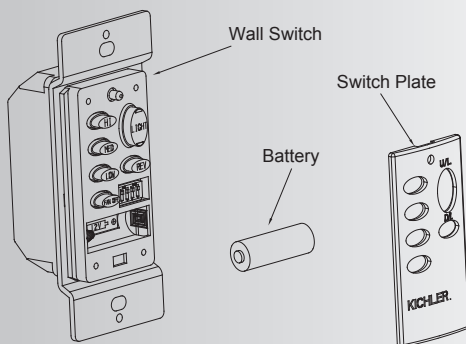

Fig. 18
Step 1. Use a small flat screw driver and gently pry it apart from the top or bottom of the switch plate. Install 1, 12volt battery included with wall mount Control system and make sure it is seated correctly. Replace the switch plate. (Fig. 18)
Step 2. Test the transmitter by pressing and releasing ANY button. A RED Light should illuminate, if not, check to make sure the battery is inserted and seated correctly. (Fig. 18)